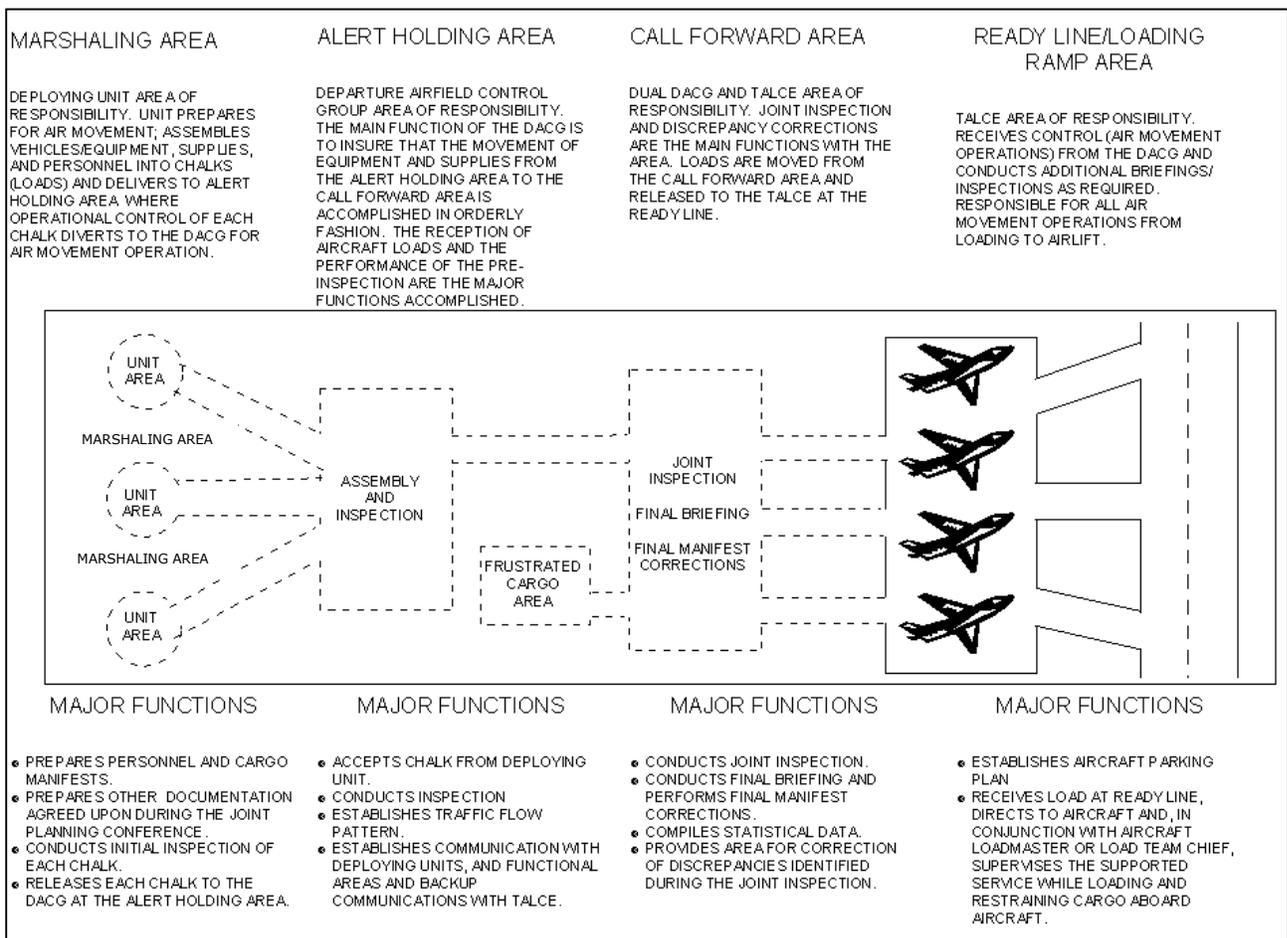

Figure 4-3. Notional Aerial Port of Embarkation.
4-17. Battalion and companies deploy personnel, supplies, and equipment by air through an aerial port of embarkation (APOE) that is generally operated by the Air Force. It may be on an Air Force Base or a commercial airfield. All ports must have communications and be able to provide ITV of unit equipment during this phase of movement. This capability must extend to providing advance arrival information to the APOD. There are distinct differences between a SPOE and an APOE. Most notably is that the APOE uses four separate areas of movement preparation. Personnel, supplies, and equipment go from the marshaling area to an alert holding area, to a call forward area, and finally to a loading ramp area. These latter three areas, the alert holding area, call forward area, and loading ramp area, are used at an APOE instead of the single staging area of an SPOE. A notional APOE structure is shown in Figure 4-3.
- The **Call Forward Area** is that portion of the departure airfield where the joint inspection is conducted. (See Figure 4-3.) It is the dual responsibility of the A/DACG and the TALCE. A final briefing is provided to deploying troops and all manifests are reviewed for accuracy. The deploying unit corrects all discrepancies found by the A/DACG and TALCE joint inspection. Control of the load moves from the A/DACG to the TALCE when the load moves from the call forward area to the loading ramp.